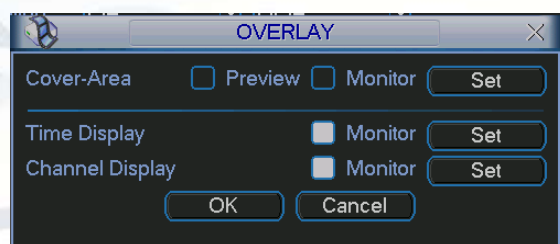

Figure 4-25
- **Overlay:** Click overlay button, you can see the interface pop up box shown in Figure 4-25.